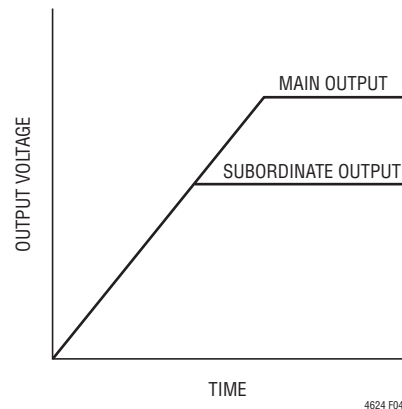

Figure 4. Output Coincident Tracking Waveform
The coincident output tracking can be recognized as a special ratiometric output tracking in which the main's output slew rate (MR) is the same as the subordinate's output slew rate (SR), waveform as shown in Figure 4.